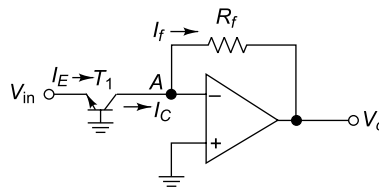

Fig. 5.95
33. Compute the output voltage V_o of an antilog amplifier using OP-AMP and transistor as shown in Fig. 5.95. Assume $V_{in} = 200 \text{ mV}$, $R_f = 10 \text{ K}$, $\tau = 1$, $V_T = 20 \text{ mV}$ and $I_o = 10^{-13} \text{ A}$